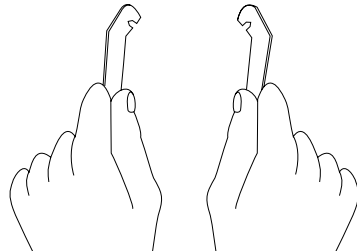

Figure 8-10 Orientation of the Wrenches
- Grasp the wrenches as shown in Figure 8-10. The orientation of the wrenches is important.